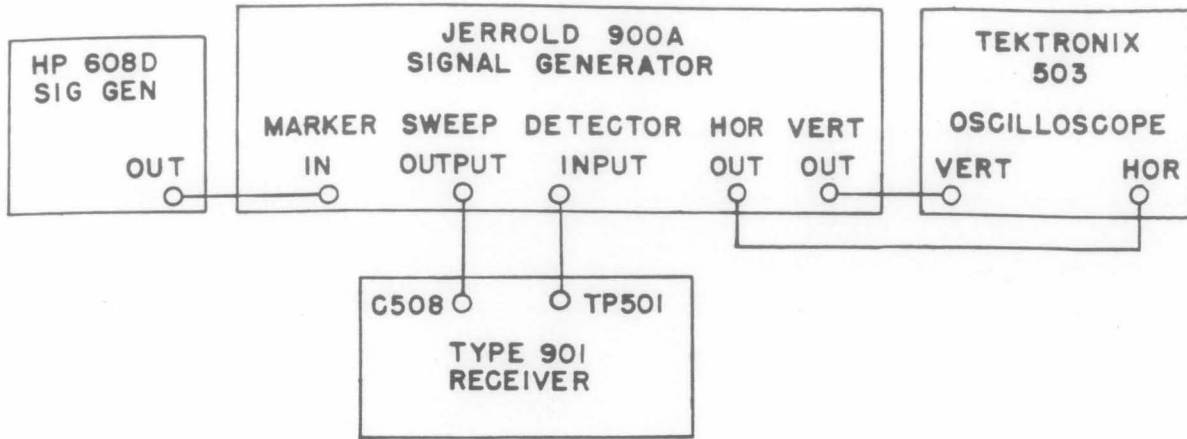

Figure 5-19. Type 901 Receiver, Equipment Setup, V502 to V503 Interstage Alignment
- (1) Remove bottom cover from the 60-300 mc tuner chassis.
- (2) Unsolder C508 from the junction of L503 and L504, carefully noting the capacitor's position so that it may later be resoldered to exactly the same point.
- (3) Set up the equipment as shown in Figure 5-19.
(1) If C508 has been unsoldered from the junction of L503 and L504, resolder it to the exact position from which it was taken.
(2) Set up equipment as shown in Figure 5-19 except that the output of the sweep generator is now connected to the INPUT, J102.
(3) Set the oscilloscope vertical sensitivity to 10 mv per cm and the vertical input to the ac-coupled position.
(4) Set the oscilloscope horizontal sensitivity so that the total trace of the horizontal sweep is 10 cm.
(5) Set the receiver dial to 290 mc and the sweep generator to approximately 290 mc.
(6) Adjust C504 for maximum gain and symmetrical response.
(7) Set the receiver dial to 100 mc and the sweep generator to approximately 100 mc.
(8) If the response is symmetrical, the alignment is completed. If not, adjust C504 for a symmetrical response.
(9) Repeat step (6) through (8) as necessary.